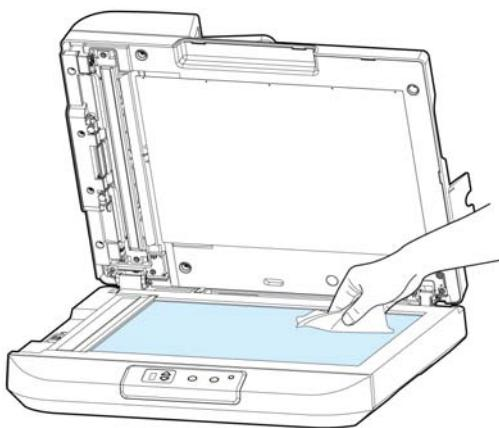

Figure 7-1 The cleaning area
2. Open the document cover as shown in Figure 7-1. Wipe